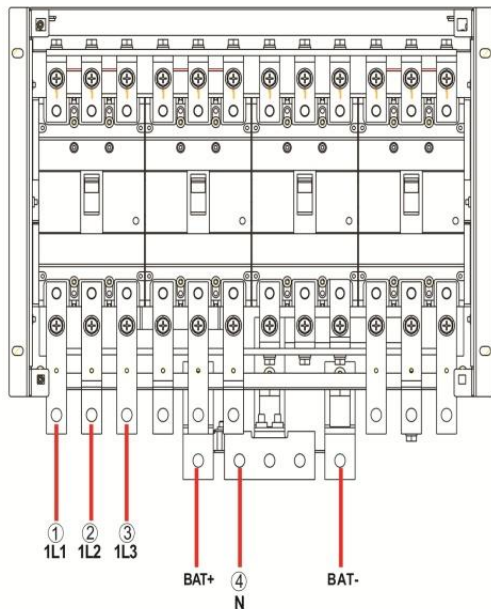
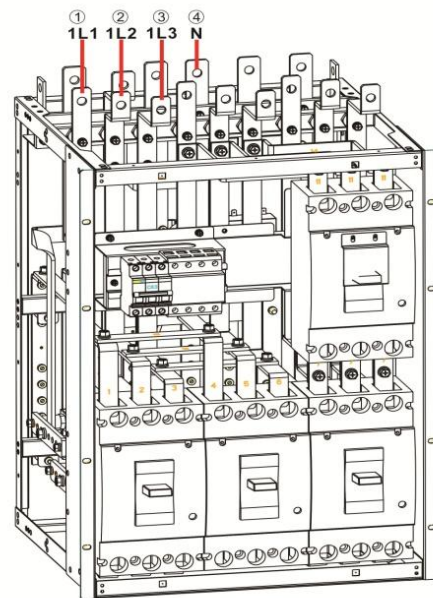

Fig.3-14 Connect the AC input cable
Fig.3-15 Connect the AC input cable
Step 2: Connect the AC input cables to the main input power distribution terminals 1L1, 1L2, 1L3, and N in sequence, as shown in Figure 3-14 and Figure 3-15. Before powering on, please use a multimeter to confirm that there is no short circuit between each phase of the terminals.